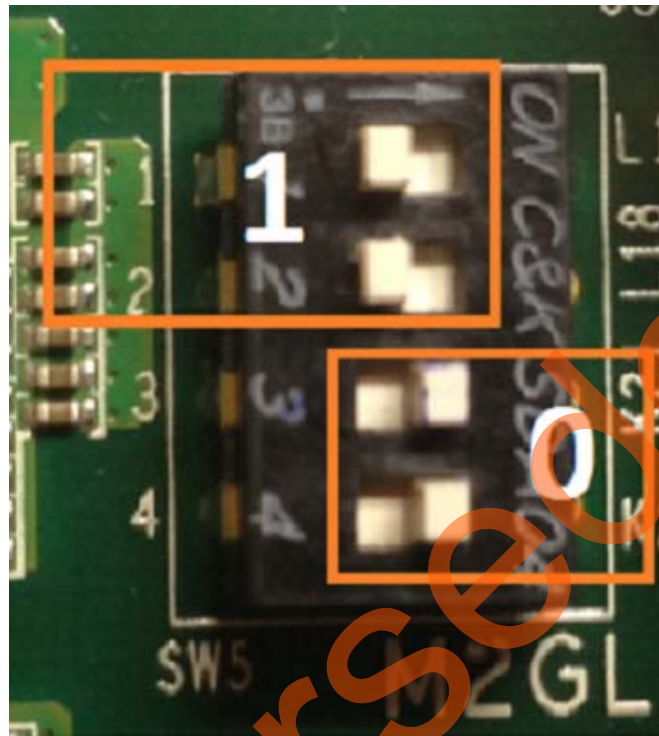

Figure 10 • Toggling DIP Switches
3. To wake-up the device from the F*F mode, toggle DIP switches 1 and 2 to 1 position (OFF) **AND** toggle DIP switches 2 and 3 to 0 position (ON) as shown in Figure 10. Upon this setting, the device exits from the F*F mode. Observe that the LEDs start to toggle again indicating that the device exited from the F*F mode.
Note: The DIP switches combination shown in Figure 10 constantly keeps the device in the Active mode, since that combination is configured to wake-up the device. Before proceeding to the next step, ensure that the combination setting of the DIP switches is different than what is shown in Figure 10 on page 14.